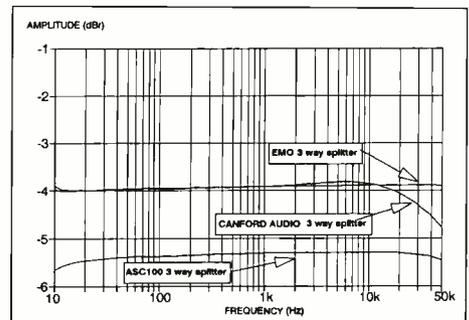

Fig. 2: Amplitude vs Frequency response of splitter outputs, each loaded with 1K2 Ω. Input level -40 dBu. Worst output of each splitter shown
**Amplitude and Phase vs Frequency:** on initial tests the EMO unit has the best performance, being within -0.05/+0.07 dB under all loading conditions. ASC100 is next with -0.12/+0.15 dB on each output. Canford is worst at -0.08/+0.5 dB when measured on Output 1. The EMO phase response is also best, rising only 5° at low frequencies, with no phase error above 500 Hz. These results are shown in Fig. 2, and none of them are likely to be audibly obvious, all deviations being minor.